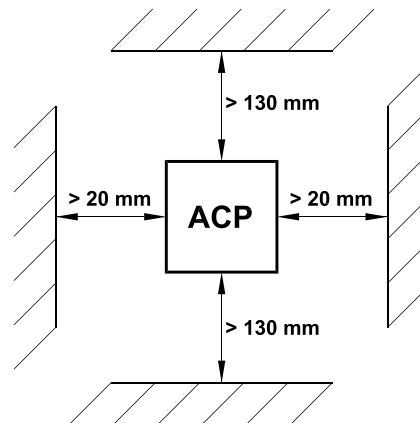

Figure 3.1
- B. The ACP inverter generates heat, and therefore there must be a sufficient amount of free space around the unit (see Figure 3.1). If the unit is accommodated in a housing together with a different unit, the prescribed minimum distances must be observed so that adequate ventilation can be ensured.